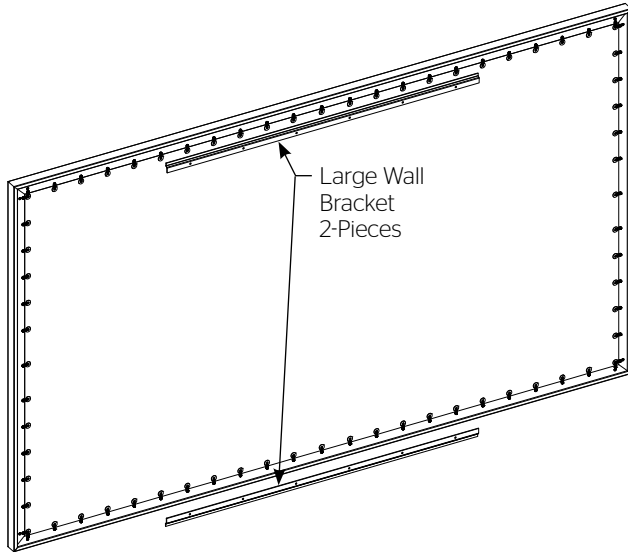

Figure 8
1. Secure the wall bracket to wall studs at the desired height. Make sure the bracket is level. The top of the frame will be 1/8" above the top of the wall bracket when mounted. You will need at least 5/8" clearance above the bracket to hang the screen. Figure 8 and 9 show the proper orientation for the supplied wall brackets.